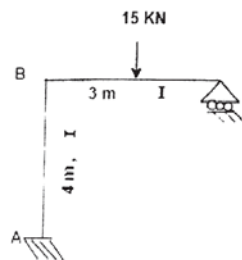

Figure 5
b) Analyze the bent shown in figure 5 by Moment Distribution Method.[8]